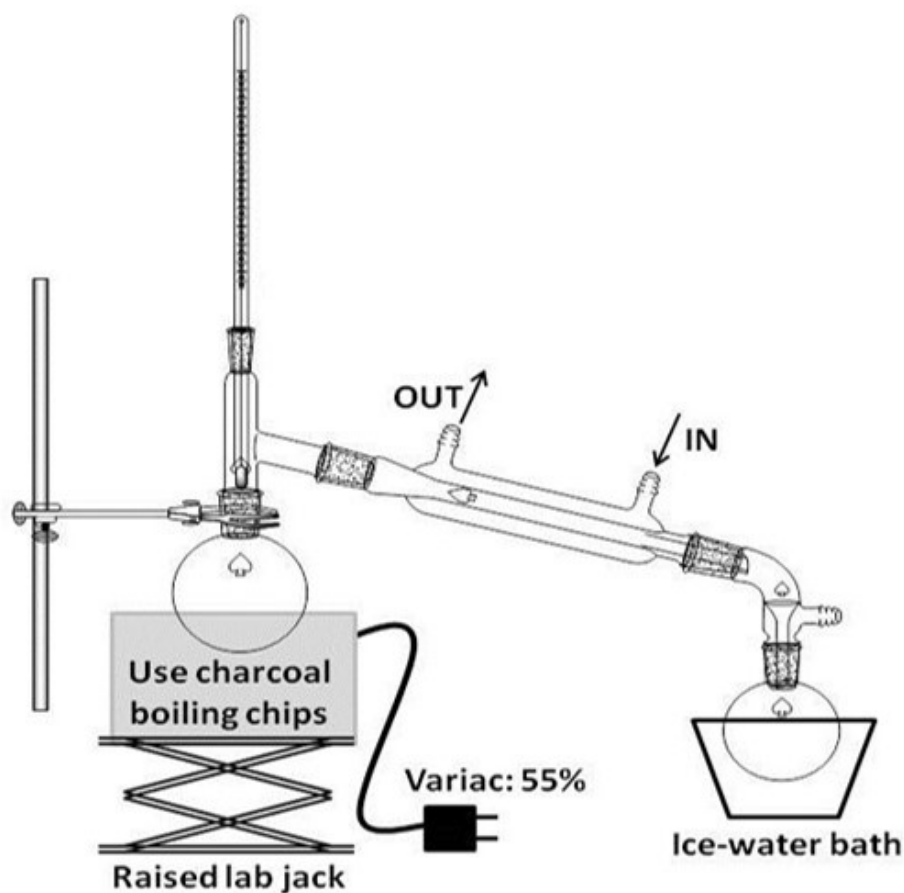

Figure 1. Distillation apparatus set-up
3. Set up a simple distillation apparatus (refer to Figure 1). The round bottom flask should be clamped firmly to the monkey bars at a height that allows for the heating mantle and the **raised** lab jack to fit below. The raised lab jack needs to be high enough that "*lowering it down*" will allow a hot heating mantle to be easily slid out from under the round bottom flask (secured to the monkey bars). Use a 50-mL round bottom flask immersed in an ice-water bath as the receiver flask.